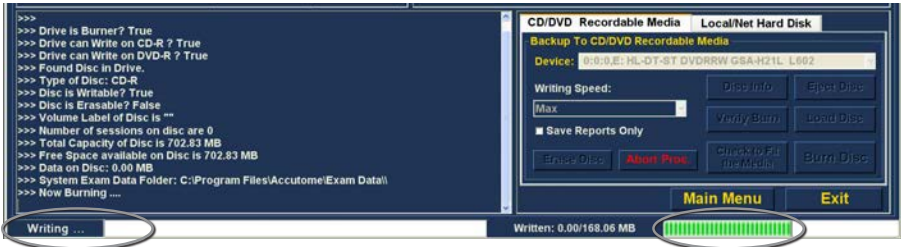

Figure 8.8 - Disc Burning Progress
2. While the disc is burning the archive screen will display in the process information area the burning progress as shown in Figure 8.8. Disc burning information includes textual information and burn progress in the status bar at the bottom of the screen.